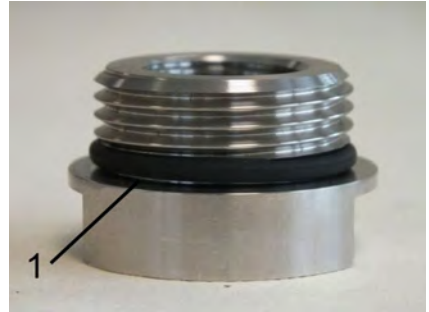

Fig. 43: Properly positioned O-ring
are properly seated in the O-ring grooves of the process connection. (Fig. 43/1). When doing so, be careful not to overstretch the O-rings.
2. ➤ Position the O-ring properly on the process connection (Fig. 43/1).